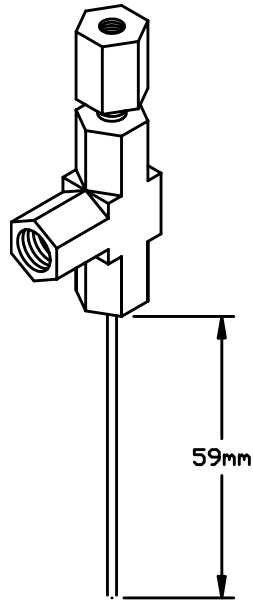
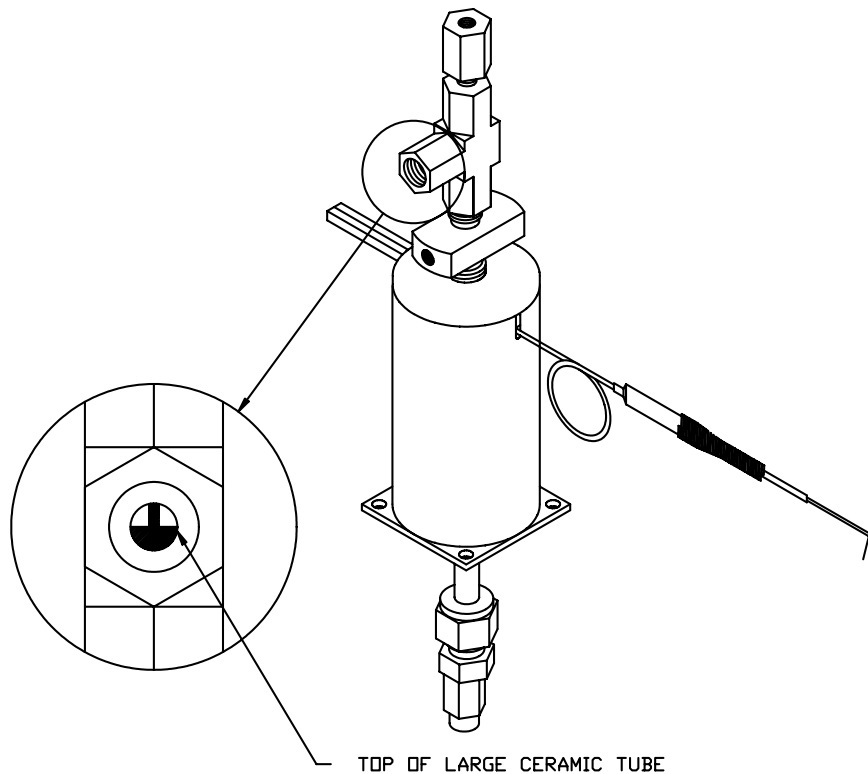

Figure 2
Figure 3
11. Replace tubes and ferrules, as necessary. The placement of the 1/16" ferrule on the inner ceramic tube should allow 59 mm of tube to extend from the bottom of the Tee once the Hydrogen Nut is screwed into place, as shown in Figure 2. The placement of the 1/8" ferrule on the outer ceramic tube should be such that the outer tube is showing halfway in the transfer line inlet on the Tee after the Tee and the Air Inlet Nut are screwed together, as shown in Figure 3.